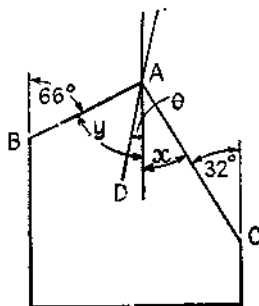

Fig. 14
(3) In fig. 14  $AD$  bisects  $\angle BAC$ . Calculate  $\theta$ .